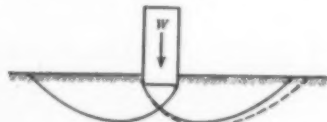

FIG. 2. Failure of soil by shear at ultimate bearing capacity of a footing takes place generally along arcs shown.
2. Failure of the soil in front of the toe or key of a wall will occur along arcs such as AB for a wall with no key, or FG if there is a key, as shown in Fig. 1. Failure of soil by shear at the ultimate bearing capacity of a footing, on the other hand, takes place generally along arcs like those shown in Fig. 2. The two situations are in general different and incompatible, and further, the nature and specifically the length of the failure surfaces is radically different in the two cases.